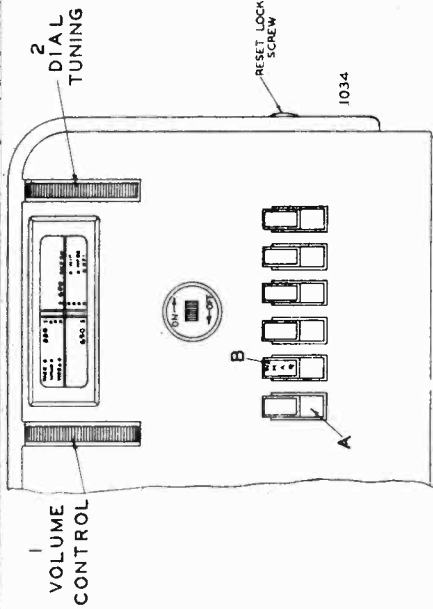

FIG. 3.—FRONT VIEW
There are six push buttons on the front of the radio by means of which six stations may be selected, (see "A" Fig. 3).
3. On the front of each automatic tuner button an opening is provided for inserting the call letter tabs. (See "B" Fig. 3).
8. Move the tuning control (No. 2) as far as it will turn. Now remove from the right side of the cabinet the metal button, and, with a screw driver inserted through the hole, tighten the reset locking screw (see Fig. 3). It is VERY IMPORTANT that this locking screw is turned until it is ABSOLUTELY TIGHT.